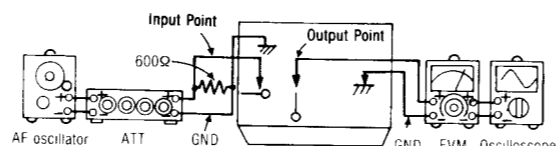

Fig. 6
1. Test equipment connection is shown in Fig. 6, and connect a jumper of TP6. (See page 9).
5. If it is not within the standard, adjust VR7 (L-CH) {VR8 (R-CH)} and repeat the step (2), (3) and (4) until the output is within the standard.